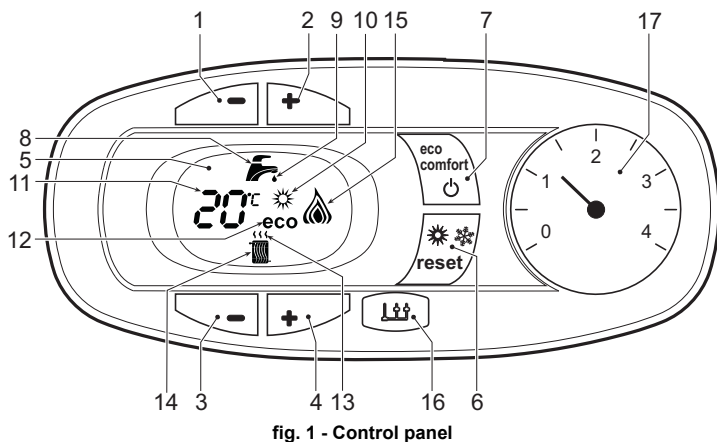
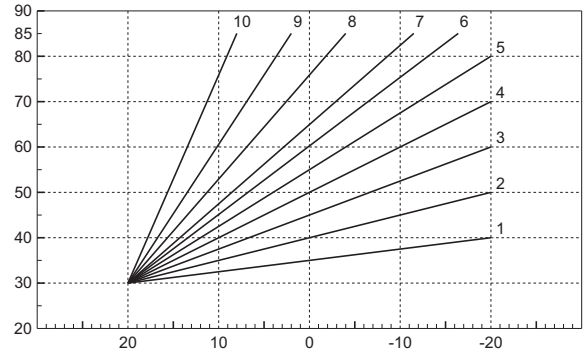
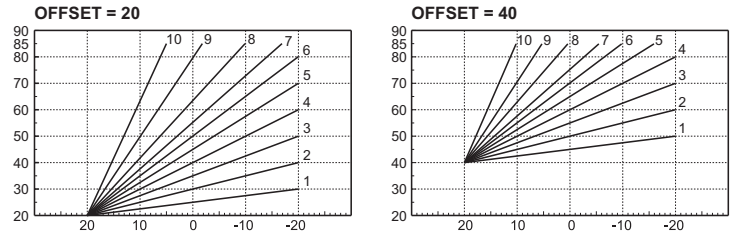

fig. 1 - Control panel
fig. 6 - Compensation curves
fig. 7 - Example of compensation parallel curve offset
**Key of panel fig. 1**
The display (detail 11 - fig. 1) shows the actual heating delivery temperature and, during heating standby time, the message "d2".
The display (detail 11 - fig. 1) shows the actual DHW outlet temperature and, during DHW standby time, the message "d1".
A Comfort demand (reinstatement of temperature inside the boiler) is indicated by flashing of the water under the tap on the display. The display (detail 11 - fig. 1) shows the actual temperature of the water in the boiler.
In case of a fault (see cap. 4.4) the display shows the fault code (detail 11 - fig. 1) and during safety pause times the messages "d3", "d4" and "d5".
Press the **on/off** button (detail 7 - fig. 1) for 5 seconds.
When the boiler is turned off, the circuit board is still powered. Domestic hot water and heating are disabled. The frost protection system remains activated. To relight the boiler, press the **on/off** button (detail 7 fig. 1) again for 5 seconds.
Press the **summer/winter** button (detail 6 - fig. 1) for 2 seconds.
The display activates the Summer symbol (detail 10 - fig. 1): the boiler will only deliver domestic hot water. The antifreeze system remains activated.
To deactivate the Summer mode, press the **summer/winter** button (detail 6 - fig. 1) again for 2 seconds.
Use the heating buttons (details 3 and 4 - fig. 1) to adjust the temperature from a min. of 30°C to a max. of 80°C; in any case, it is advisable not to operate the boiler below 45°C.
Use the DHW buttons (details 1 and 2 - fig. 1) to adjust the temperature from a min. of 40°C to a max. of 55°C.
The user can deactivate the device (ECO mode) by pressing the **eco/comfort** button (detail 7 - fig. 1). In ECO mode the display activates the ECO symbol (detail 12 - fig. 1). To activate the COMFORT mode, press the **eco/comfort** button (detail 7 - fig. 1) again.
With the Sliding Temperature adjustment, the temperature set with the heating buttons (detail 3 - fig. 1) becomes the maximum system delivery temperature. It is advisable to set a maximum value to allow system adjustment throughout its useful operating range.
Press the **reset** button (detail 6 - fig. 1) for 5 seconds to access the "Sliding temperature" menu; the display shows "CU" flashing.
Use the DHW buttons (detail 1 - fig. 1) to adjust the desired curve from 1 to 10 according to the characteristic (fig. 6). By setting the curve to 0, the sliding temperature adjustment is disabled.
Press the heating buttons (detail 3 - fig. 1) to access parallel curve offset; the display shows "OF" flashing. Use the DHW buttons (detail 1 - fig. 1) to adjust parallel curve offset according to the characteristic (fig. 7).
Press the **reset** button (detail 6 - fig. 1) again for 5 seconds to exit the "Sliding Temperature" menu.
Eco/Comfort selection	On disabling DHW from the Remote Timer Control menu, the boiler selects the Economy mode. In this condition, the eco/comfort button (detail 7 - fig. 1) on the boiler panel is disabled.
On enabling DHW from the Remote Timer Control menu, the boiler selects the Comfort mode. In this condition it is possible select one of the two modes with the eco/comfort button (detail 7 - fig. 1) on the boiler panel.